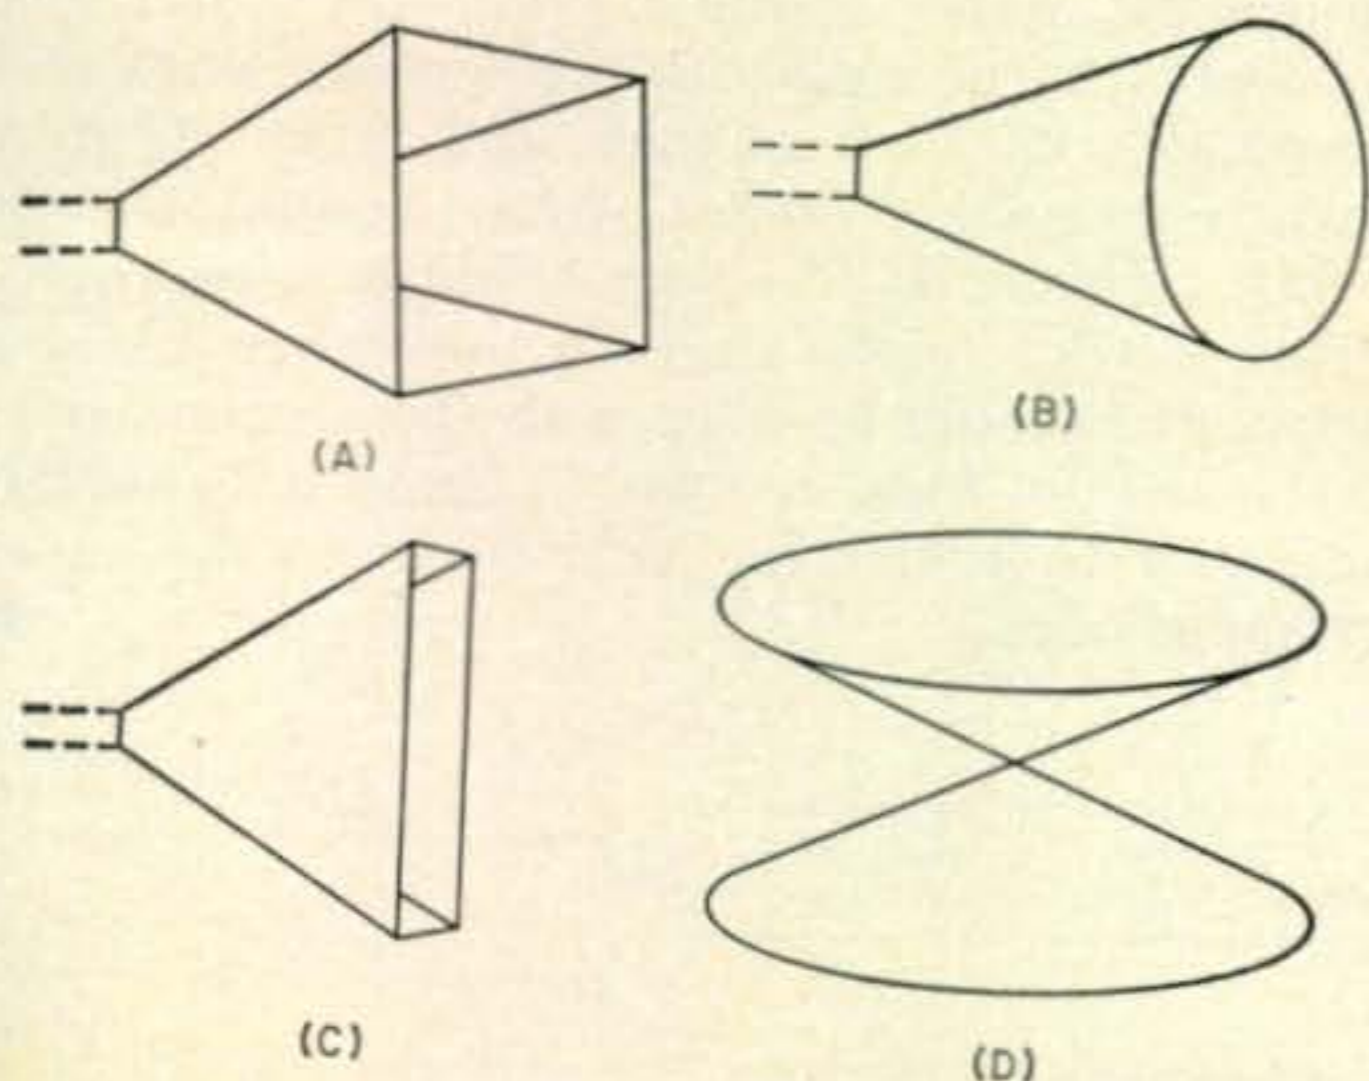

Fig. 1—Various forms of u.h.f. horn antennas. (A) Pyramidal; (B) Conical; (C) Sectoral; (D) Bi-Conical.
**H**ORN-type antennas (fig. 1) have generally been considered as being useful only at u.h.f. frequencies, primarily as a waveguide termination device used either to illuminate a reflector or to act as an antenna by itself. However, at least two forms of horn antennas have already found some application below 30 mc as broad-band antennas, namely the discone and conical types. Generally, they have been used as vertically polarized, broad-band types covering all or several of the amateur h.f. bands. Another interesting form of horn antenna which